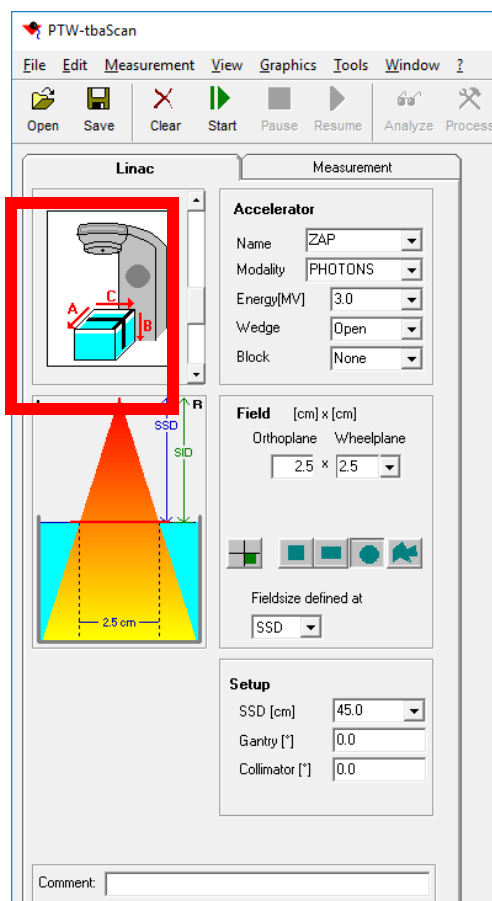

Figure 1-15. Linac Tab
- c. Click **OK** and proceed to input the information as shown on the Linac tab using 25mm cone as an example. The display shows 2.5 cm x 2.5 cm (see Figure 1-15).
2. In Linac tab, set field size to 2.5 cm x 2.5 cm (see example in Figure 1-15).